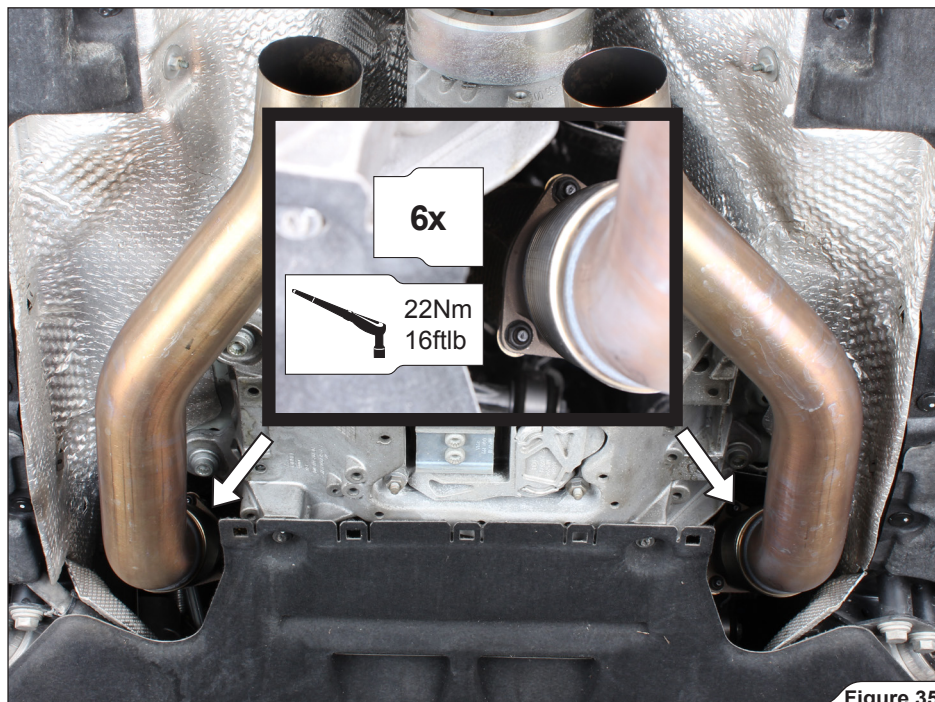

Figure 35
5. Install the Akrapovič link pipes onto the stock down pipes, using stock flange nuts (**Figure 35**).